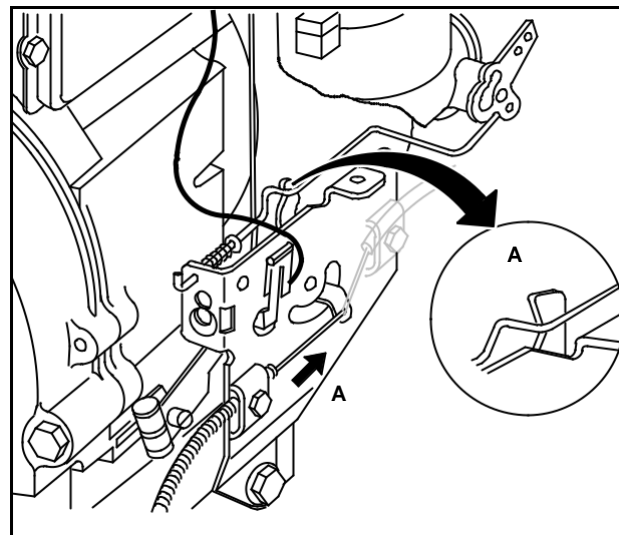

Fig. 69
Adjust Choke-A-Maticr linkage and cable as shown (A), to increase speed, Fig. 69.